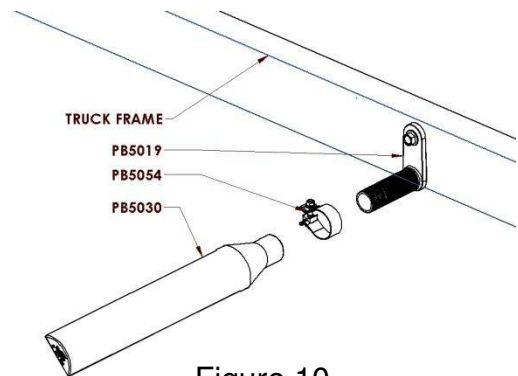

Figure 10
- A. Bolt the remaining PB5019 swivel brackets to the truck frame as shown in Figure 10 and tighten the nut so the brackets suit the desired position of the fender. **Tighten to a recommended torque of 160-170 ft-lbs.**